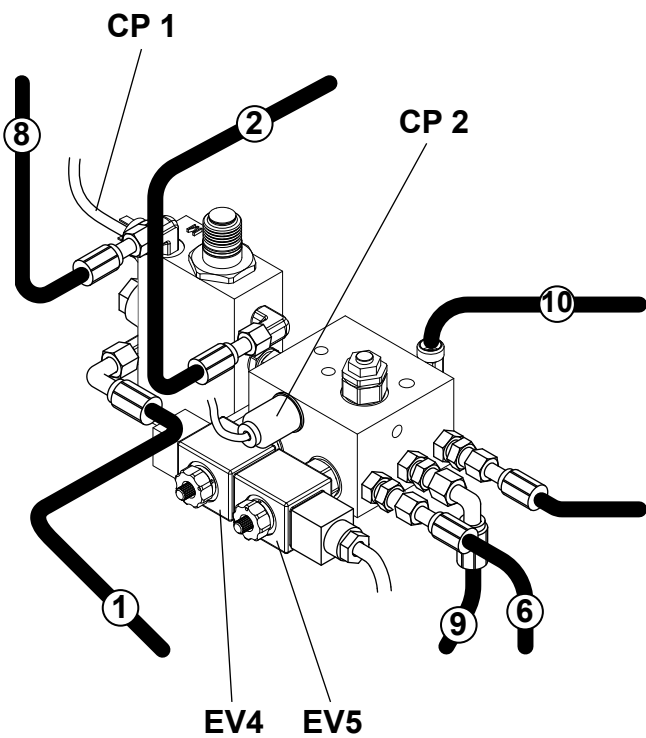

Fig. 14
Collegare i cavi elettrici presenti centralina alle elettrovalvole EV4-EV5 e ai pressostati CP1-CP2 (fig. 14).
- Connect the drain pipes (4 and 5) to the control unit by means of pipe (7).
- Fill the tank (11) with ESSO NUTO H32 oil or equivalent (Qt.). Connect the cables in the control unit to the solenoid valves EV4, EV5, to the pressure gauges CP1, CP2 (fig. 14).
Die im Schaltschrank vorhandenen Kabel an die Elektroventile EV4, EV5, an die Druckwächter CP1, CP2 und die Polung berücksichtigen (fig. 14).
Connecter les câbles du pupitre de commande aux électrovalves EV4, EV5, aux pressostats CP1, CP2 (fig. 14).
Conecte los cables situados en el panel de mando a las electroválvulas EV4, EV5, a los presostatos CP1, CP2 (fig. 14).